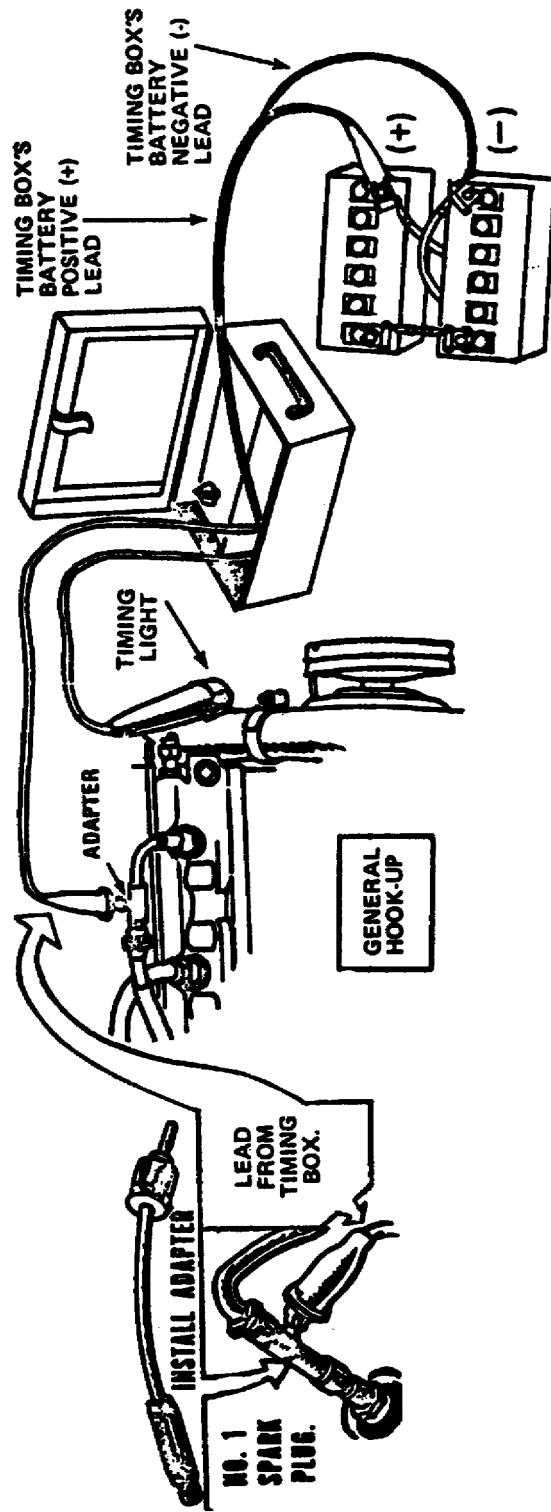

Figure 2. Ignition timing light.
a. The ignition timing light (fig 2) is a simple electrical device used by maintenance men to set the ignition timing of engines. The light is activated by the high voltage surge to a specific spark plug on the engine used as a timing reference (usually the number 1 cylinder plug). The light flashes allow the maintenance man to observe the timing of the engine while it is running and adjust the distributor for peak engine performance.